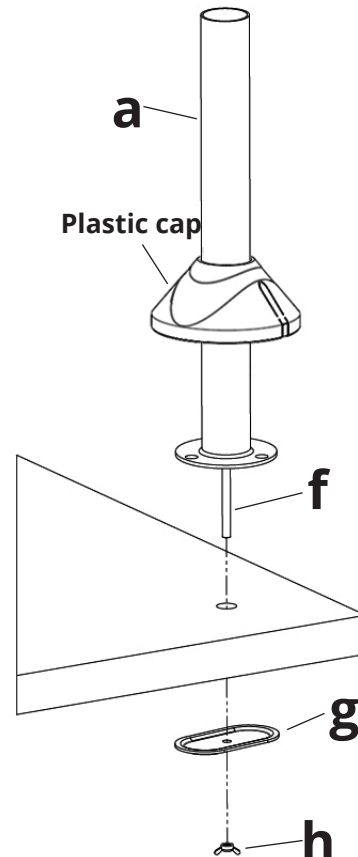

Figure 4
3. Place the tube support on the mounting surface and secure it using the Grommet plate (g) and Wing nut (h), see Figure 4.